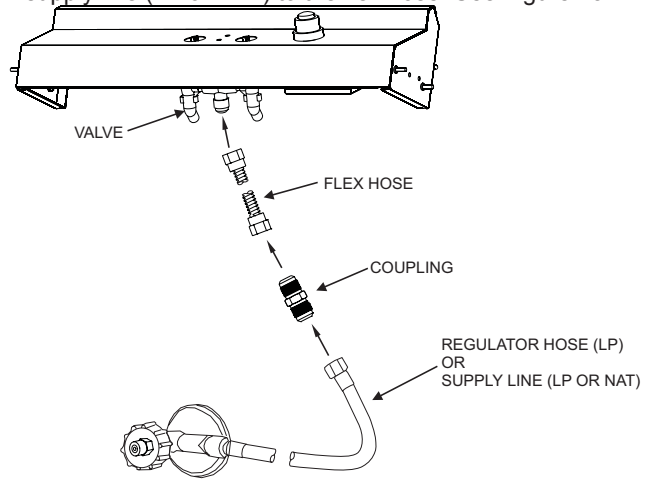

Figure 13
22. Attach the included coupler and your regulator hose (LP) or supply line (LP or NAT) to the flex hose. See Figure 13.